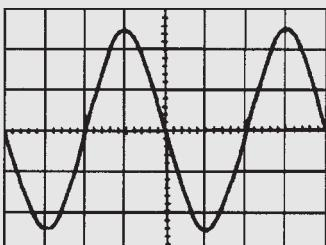

Figure 10.19
**Problem 9.** A sinusoidal voltage trace displayed by an oscilloscope is shown in Fig. 10.19. If the ‘time/cm’ switch is on 500  $\mu\text{s}/\text{cm}$  and the ‘volts/cm’ switch is on 5 V/cm, find, for the waveform, (a) the frequency, (b) the peak-to-peak voltage, (c) the amplitude, (d) the r.m.s. value.